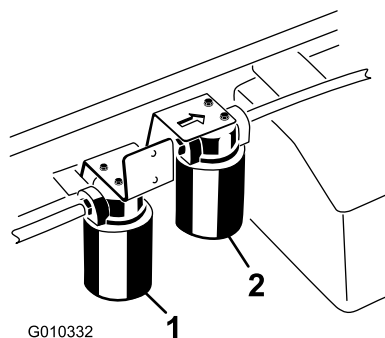

Figure 66
2. Clean the area around filter mounting area. Place a drain pan under the filter and remove the filter (Figure 66).
1. Clean the area around the high flow filter mounting area (Figure 66). Place a drain pan under the filter and remove the filter.